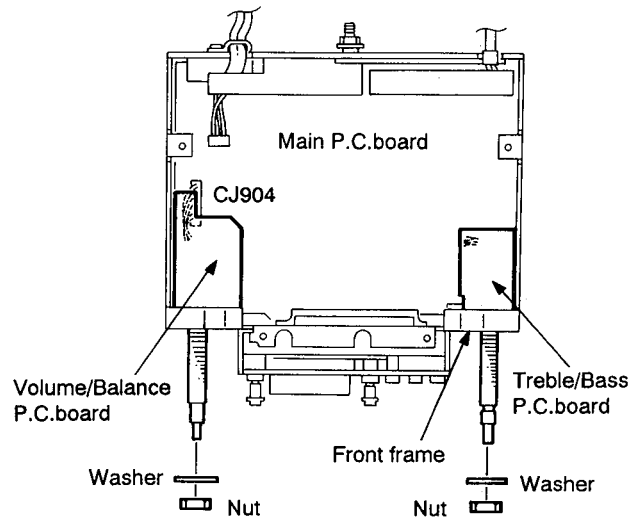

Fig. 2-11
■ **Volume boards in both sides** (Fig. 2-11)